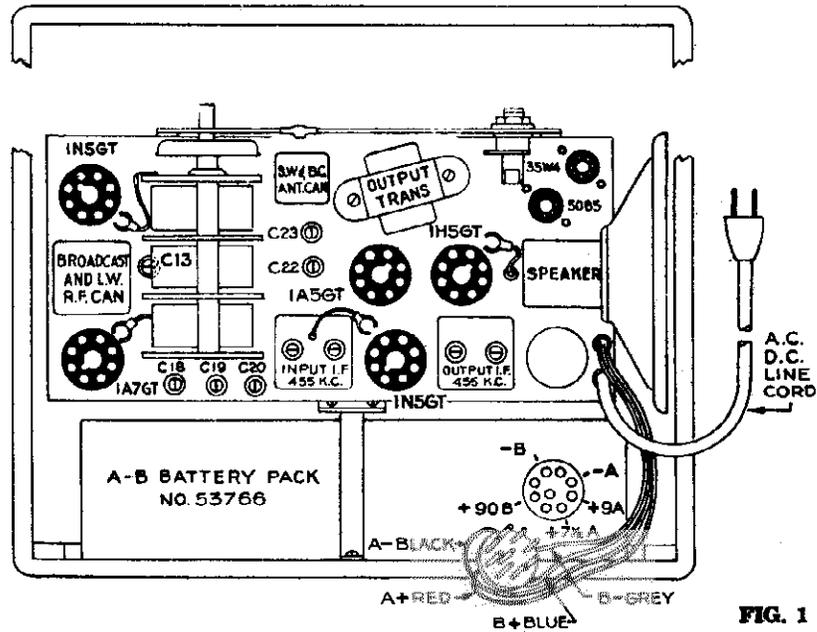

FIG. 1
2. Place the battery in the cabinet exactly as shown in the above illustration (Fig. 1).